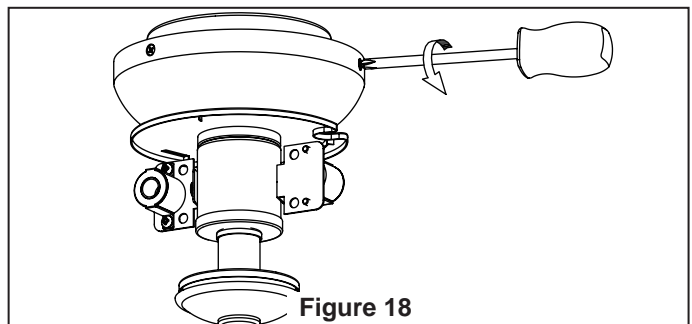

Figure 18
1. Disassemble the Adapter Switch Cup Assembly by removing three screws. (Figure 18)